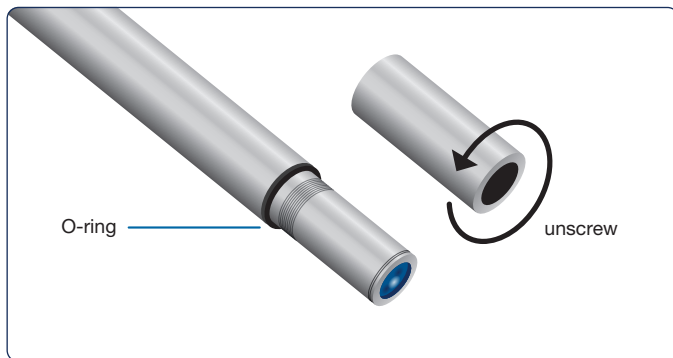

Figure 16: Replacing the ODO Cap.
- 1) Unscrew the ODO Cap from the shaft (Figure 16).